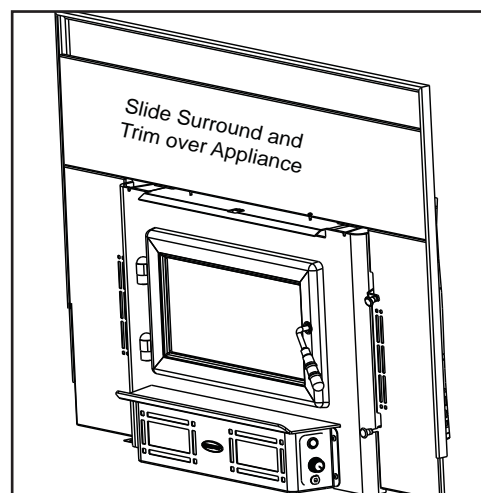

Figure 21.4
6. Install the surround set and trim set to the outer can. Place the hook in the surround sides over the surround attachment screws, 2 on each side. **Figure 21.4.**